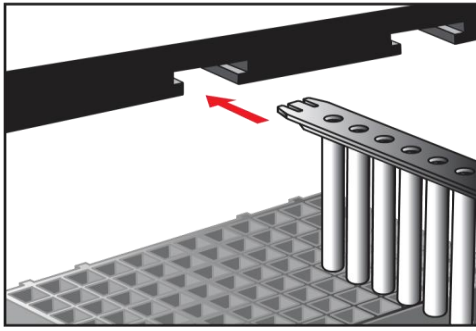

Figure 7: Inserting the rods plastic strip to its position
5. Insert the rods plastic strip in the strip holder in accordance to the tested samples plate and push it to the end (figure 7).